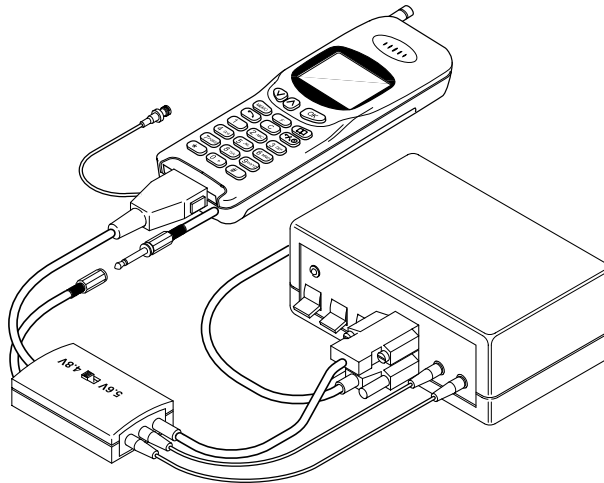

Figure 8: Interface Unit
1. ( Figure 8) Connect together the test equipment.